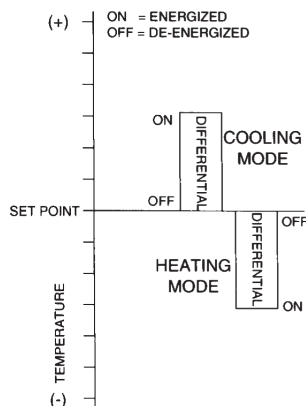

Figure 1: Setpoint and Differential Settings. Diagram indicates relay on and off points in either the heating or cooling modes.
The temperature setpoint refers to the temperature at which the normally open (NO) contacts of the output relay will open. Determine the load(s) to be controlled and the operating mode required cooling or heating. Refer to Figure 1 for a visual representation.